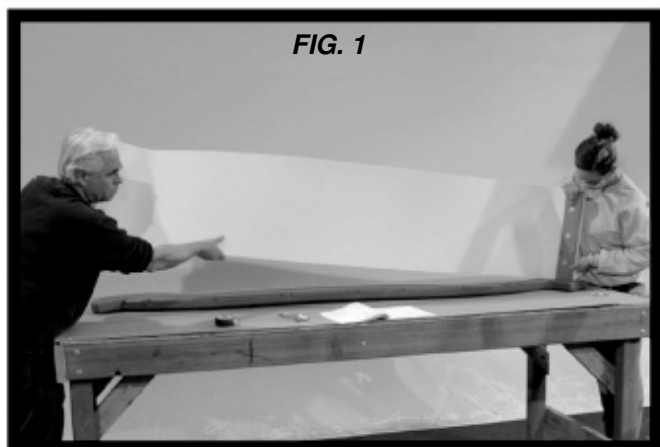

FIG. 1
- PLACE 1 SLIDE RAIL ON A FLAT SURFACE AND BEGIN INSERTING SLIDE BED AT THE BOTTOM OF THE SLIDE RAIL (FIG. 1). PUT SLIDE SUPPORT BOTTOM INTO THE SUPPORT POCKET AT THE BOTTOM OF THE RAIL AND HAVE A HELPER BEND THE SLIDE BED TOWARDS THE TOP OF THE SLIDE AND INSERT THE BED INTO THE SLIDE CAVITY. MAKE SURE SLIDE BED IS COMPLETELY DOWN IN THE SLIDE CAVITY. SECURE USING (12) 3" WOOD SCREWS AT EACH OF THE PILOT HOLE LOCATIONS AS SHOWN BELOW.